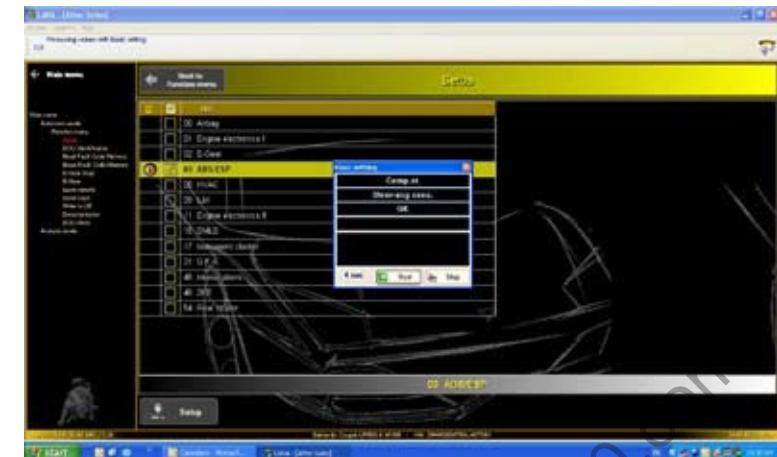

Fig.65
- Wait for the system to process the subsequent screen. Do not press anything (Fig.65).